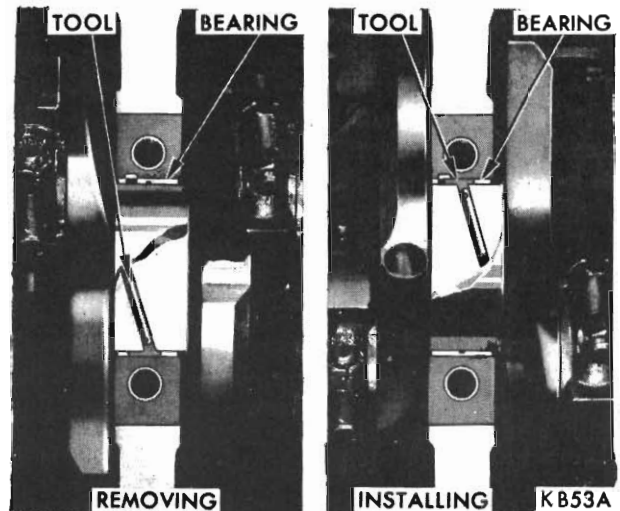

Fig. 38 - Removing or installing upper main bearing
(1) Remove oil pan and mark bearing caps before removal.
(2) Remove bearing caps one at a time. Remove upper half of bearing by inserting a tool (Fig. 38) into the oil hole of crankshaft.
(3) Slowly rotate crankshaft clockwise, forcing out upper half of bearing shell.
(1) Start bearing in place, and insert a tool into the oil hole of crankshaft (Fig. 38).
(2) Slowly rotate the crankshaft counter-clockwise sliding bearing into position.
(3) After all bearings have been fitted, tighten all caps to 85 lbs. ft. The crankshaft end play, should be .002 to .007 inch.